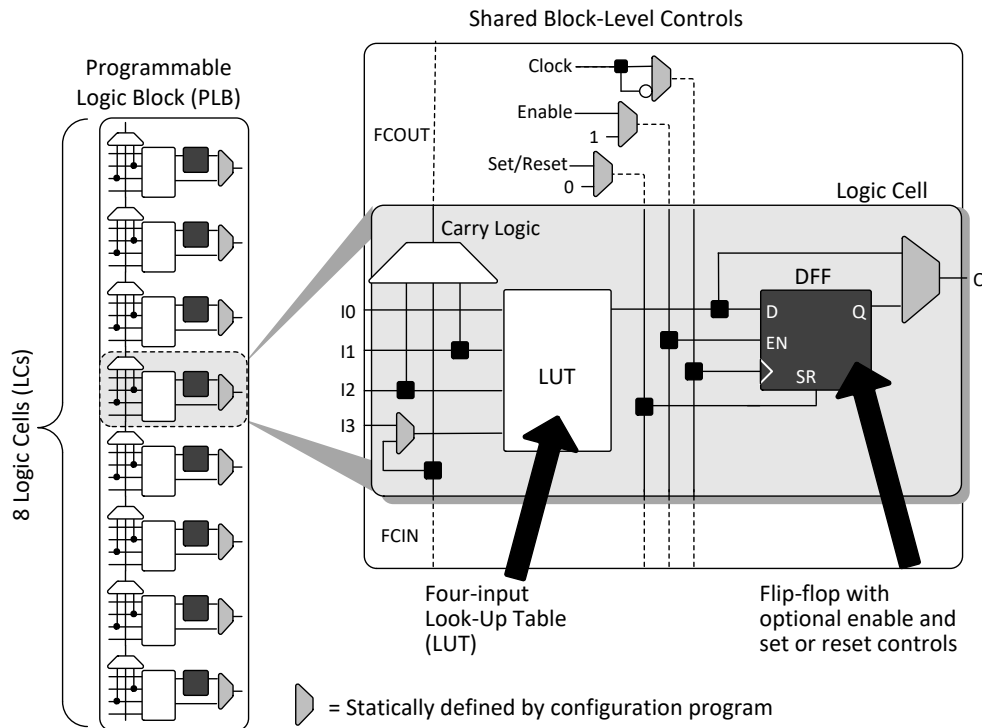

Figure 3.2. PLB Block Diagram
The core of the iCE40 UltraLite device consists of Programmable Logic Blocks (PLB) which can be programmed to perform logic and arithmetic functions. Each PLB consists of eight interconnected Logic Cells (LC) as shown in Figure 3.2. Each LC contains one LUT and one register.
Each Logic Cell includes three primary logic elements shown in Figure 3.2.